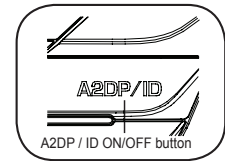

Figure 9
1. Press A2DP / ID ON/OFF BUTTON (Figure 9) to switch on A2DP mode with condition of Bluetooth must be paired and connected.